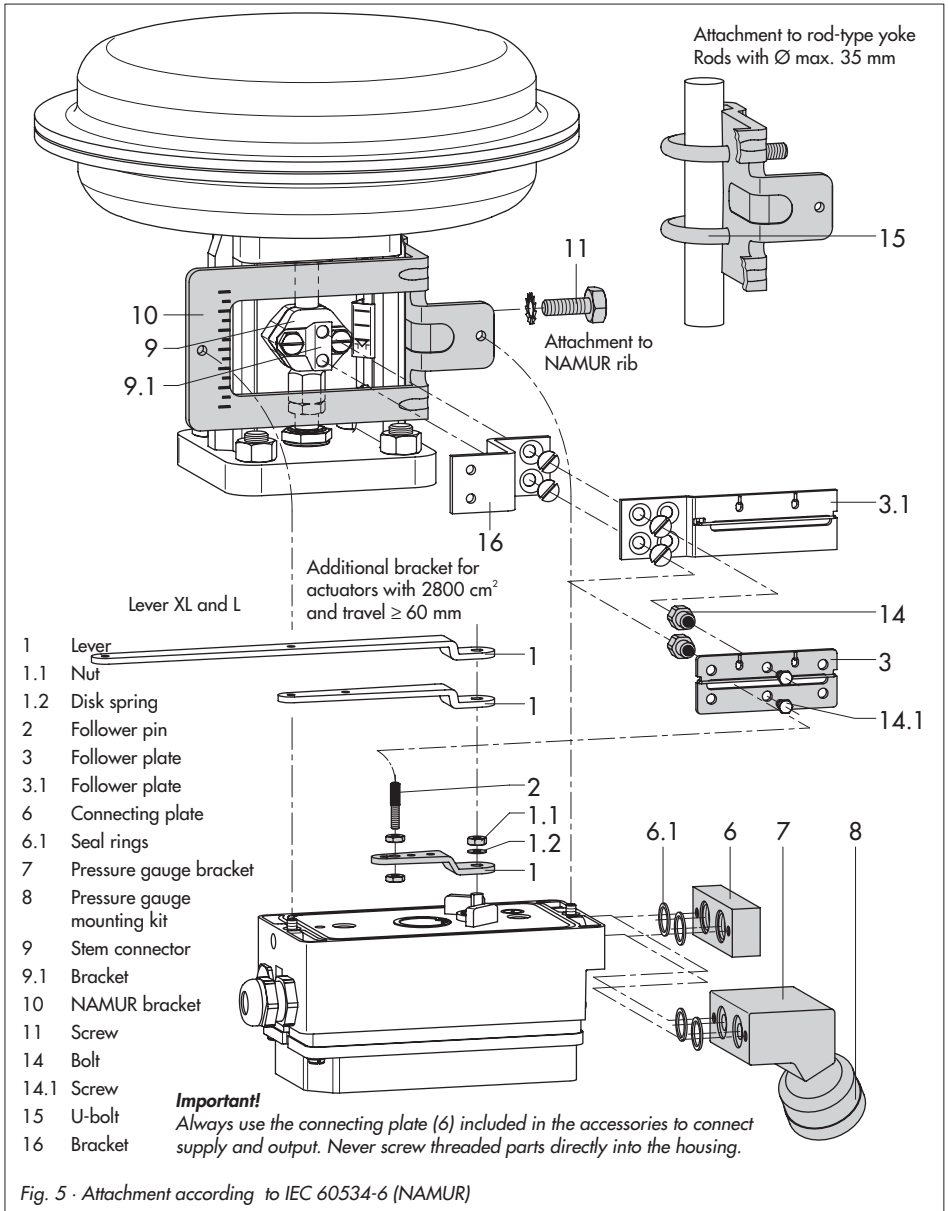

Fig. 5 · Attachment according to IEC 60534-6 (NAMUR)
Table 3 Attachment to NAMUR ribs or control valves with rod-type yokes (rod diameter Ø 35 mm or smaller) according to IEC 60534-6, see Fig. 5
For the pneumatic connection either a connecting plate (6) or a pressure gauge bracket (7) must be fixed to the housing, depending on the accessory chosen. Make sure the seal rings (6.1) are correctly inserted (see Fig. 5, bottom right).